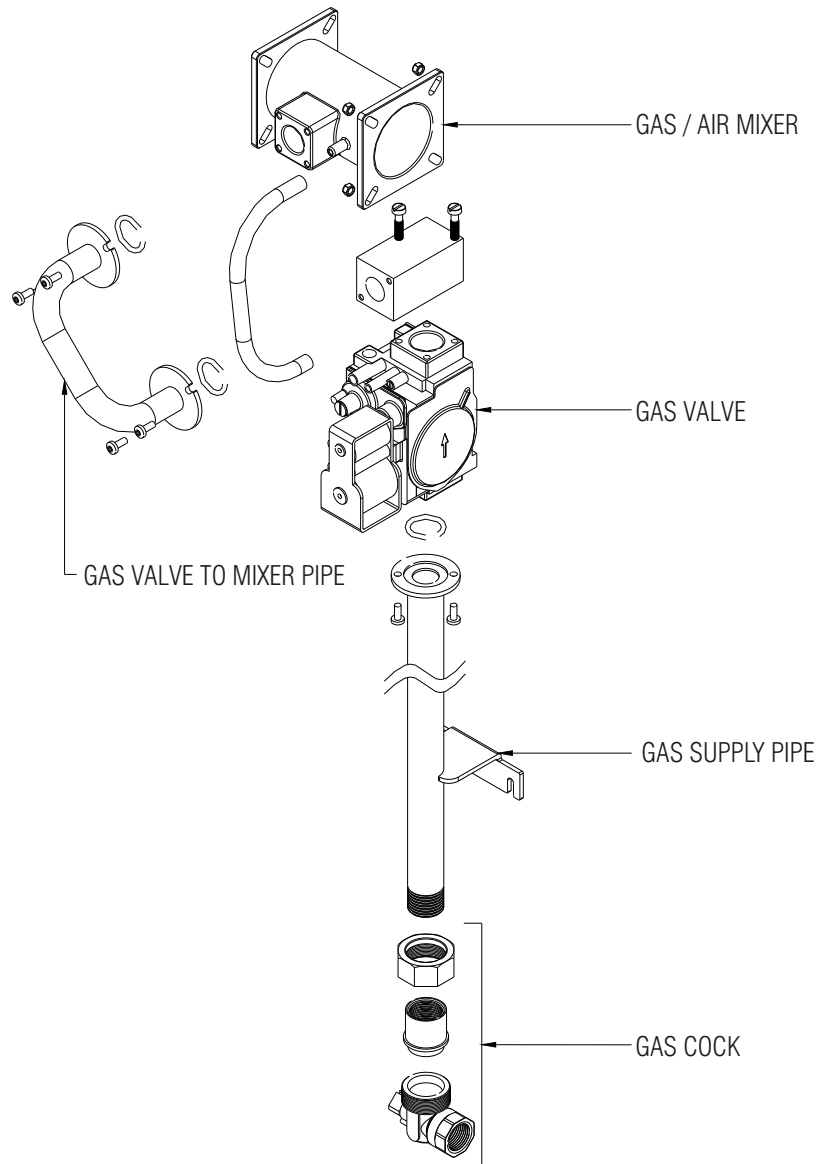

Figure 9B (Gas train arrangement)
- v) Undo the two screws at each end of the gas supply to mixing chamber pipe and remove the pipe. (See Figure 9B). Take care not to lose the 'O' ring seals.
- ii) Undo the three screws and remove the high voltage terminal cover. (See Figure 9B)